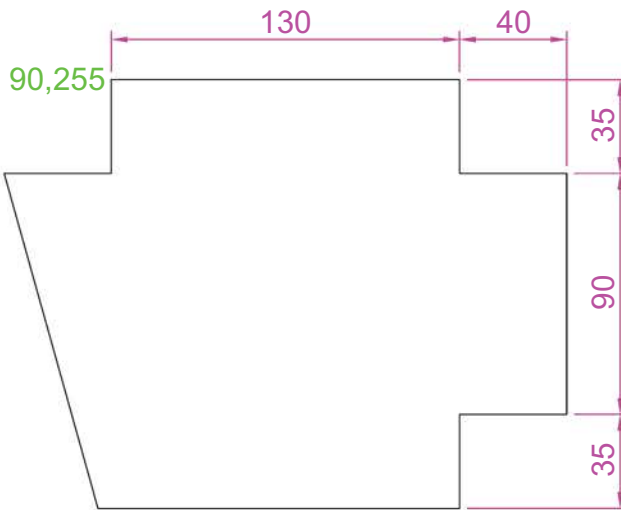

Fig. 3.17 First example – Erase – an incorrect outline
1. With **Line**, construct the outline (Fig. 3.17).